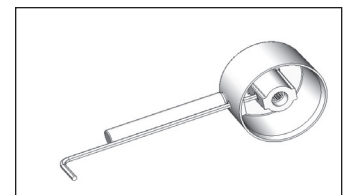

Figure 4
4. Take handle and allen wrench from trim pack. Note location of set screw already started in the handle cap. It may be necessary to loosen the set screw slightly to make sure the handle slides on the cartridge stem completely (see **Figure 4**).